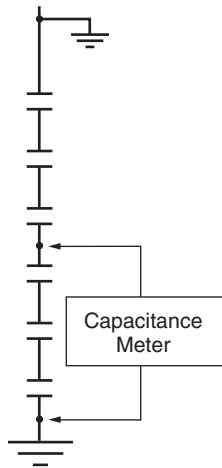

Figure 9. Midpoint-to-Ground Measurement
2. Measure the capacitance of each string from its midpoint to ground (Figure 9). If the strings have an odd number of capacitor units measure from one bushing of the middle unit to ground. Compare the measured value with the values recorded earlier. The string with the defective capacitor unit will have an increased capacitance. If the capacitor unit terminals have the Nature Guard terminal covers, the tops of the covers are easily removed and replaced to effect the measurement. The string with the frame tie may have capacitance readings that are significantly different than those measured earlier or during production. If this is the case disconnect the frame tie and repeat the measurement. Remember to reconnect the frame tie when finished.